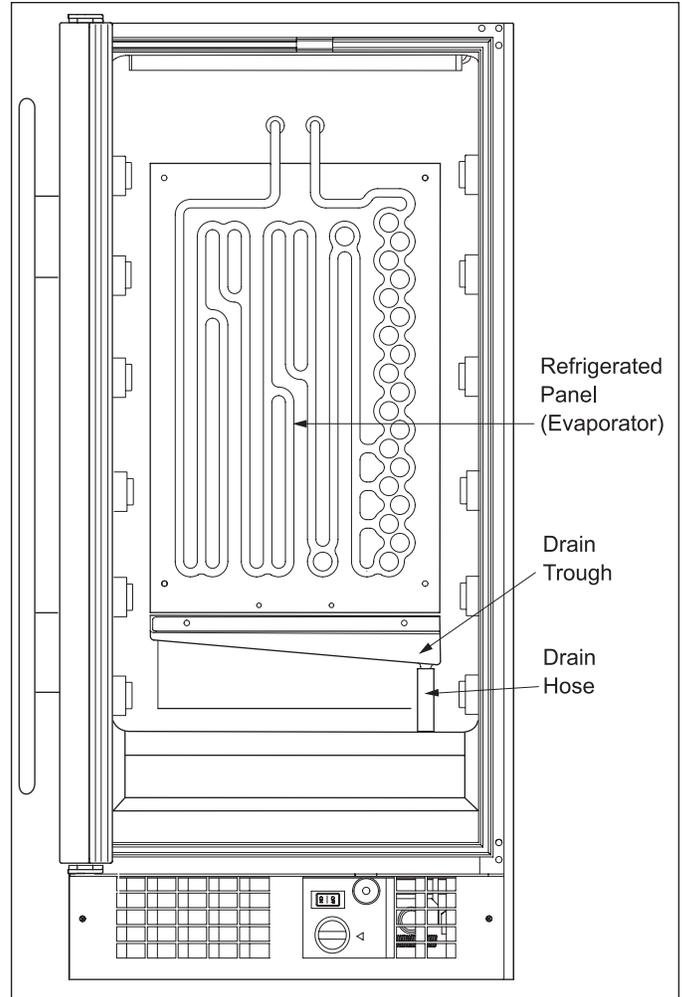

Figure 3-7. Drain System
1. About once a year check the drain trough and hose by pouring about a half-cup of water into it to be sure it drains well. (See Figure 3-7)
The 315W has an evaporator drain system below the evaporator. Moisture will form on evaporator panel at the back of the unit, then during off cycles this moisture drains into a trough and down through a hose to the drain pan. (See Figure 3-7)